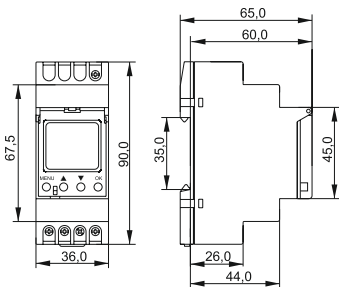

Figure 2 – Overall and installation dimensions of the timer
2.5 The overall and installation dimensions of the timer are shown in the figure 2.